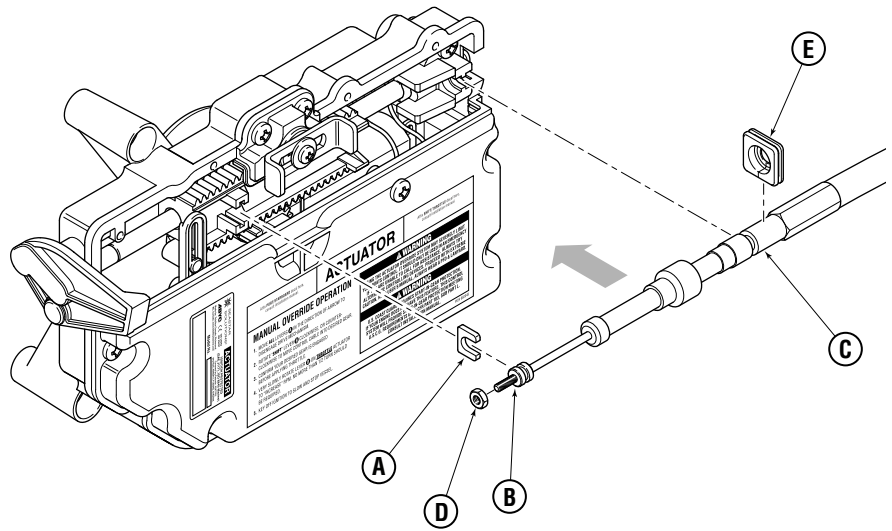

Figure 5-12. Actuator cable installation.
1. Position the U-shaped steel retainer clip (A) into the slot on the actuator rack as shown in figure 5-12.
2. Screw the adjustment barrel (B) onto the cable end to the point where the cable can be set into the actuator with the barrel engaging the steel retainer clip (A) and the cable housing groove (C) engaging the cable mount in the actuator. Ensure there is enough cable sticking out of the adjustment barrel (B) to install and tighten the lock nut (D).
8. Tighten the actuator side lock nut (see figure 5-12) for both shift actuators. Once the final adjustments are made you will need to apply Loctite 242 to the threads, but you will do this after the sea trial.
6. Tighten the actuator side lock nut (see figure 5-12) for both throttle actuators. Once the final adjustments are made you will need to apply Loctite 242 to the threads, but you will do this after the sea trial.